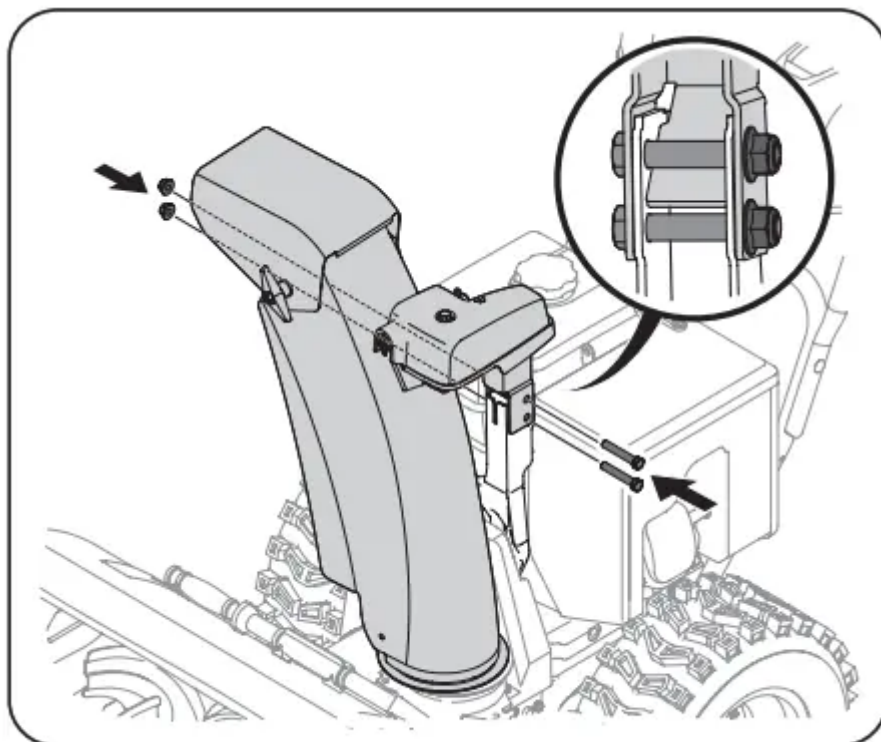

Figure 28
3. Secure chute control head to chute support bracket with lock nuts and hex screws removed in Step 1. See Figure 28.